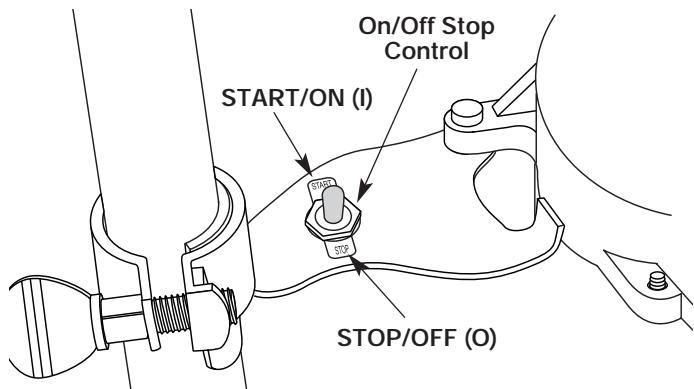
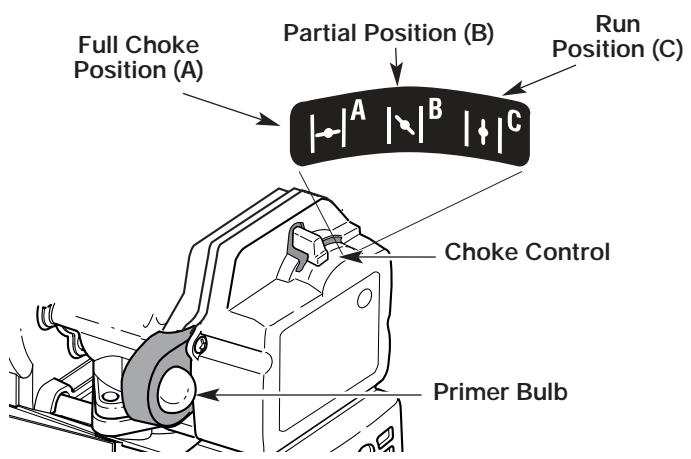

Figure 15
Figure 16
2. Put the On/Off Stop Control in the **ON (I)** position. See Figure 15.
3. Fully press and release the primer bulb 10 times, slowly, until **FUEL IS VISIBLE IN THE PRIMER BULB**. See Figure 16. If you can't see fuel in the bulb, press and release the bulb as many times as it takes before you can see fuel in it.
4. Place the choke lever in the **FULL** choke (**A** |---|) position. See Figure 16.
6. Place the choke lever in the **PARTIAL** choke (**B** |---|) position. See Figure 16.
9. Place the choke lever in the **RUN** (**C** |---|) position. See Figure 16.
10. Squeeze the throttle control to warm up the engine for 5 to 10 seconds. Place the choke lever in the **RUN** (**C** |---|) position. See Figure 16.
**NOTE:** *Choking is unnecessary when starting a warm engine. Put the On/Off Stop Control in the **ON** position (Figure 15), and start in **PARTIAL** choke (**B** |---|) position (Figure 16). After starting, place the choke lever in the **RUN** (**C** |---|) position.*
2. Put the On/Off Stop Control in the **OFF (O)** position. See Figure 15.